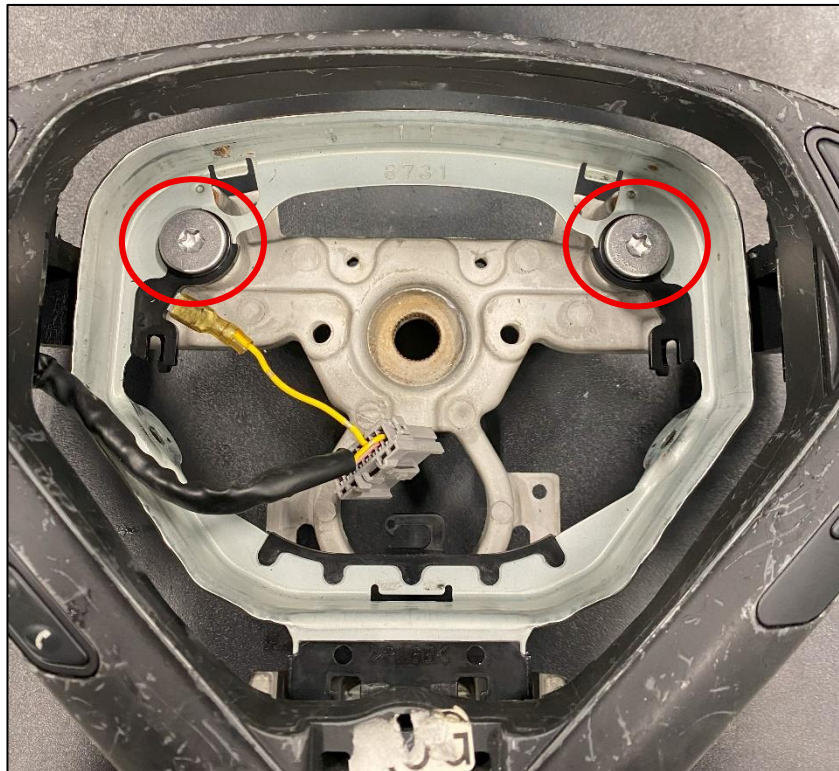

Figure 8
13. Remove the (2) two TORX screws securing the Airbag Panel to the Steering Wheel. *Figure 8.*